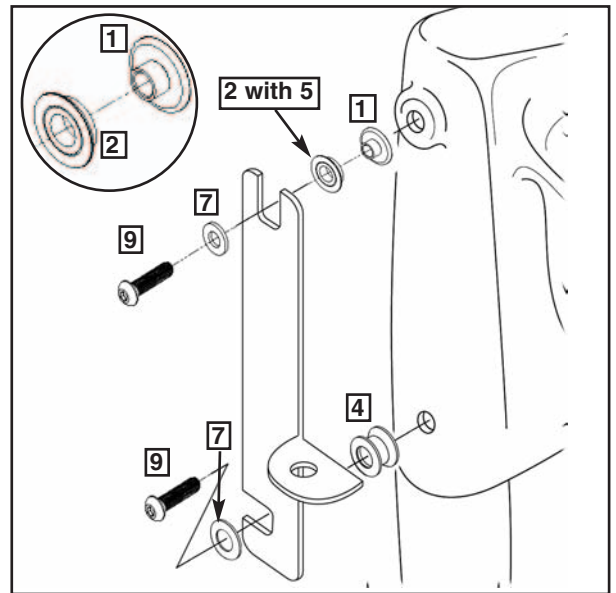

Figure 3
3. Assemble upper and lower spools as indicated in **figure 3**. **Leave loose. (3/16" Hex)**